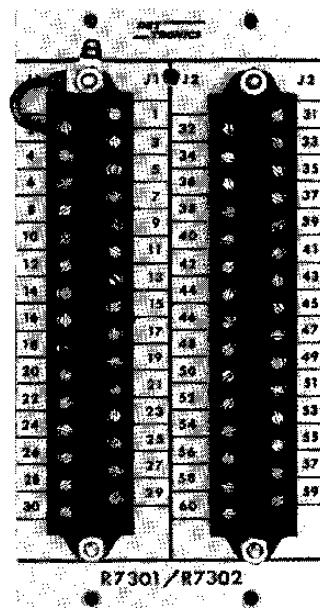

Figure 10—Field Wiring Connector
**Field Wiring Connector/Mounting Cage**—The controller is furnished with a field wiring connector (Figure 10) that incorporates pressure type screw terminals for attaching wires and edge connectors for plugging in the controller. The optional Q4001 Mounting Cage holds up to four controllers and is designed to fit into a standard 19-inch instrument rack. The cage is designed to hold the field wiring connector(s) for ease in making electrical connections, installing and servicing the controller(s).